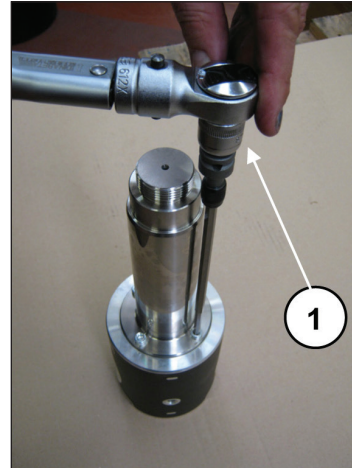

Fig. 41
Lock the piston guide in a vice with the aid of a special tool and calibrate the screws with a torque wrench (pos. ①, Fig. 41) as indicated in chapter 3.